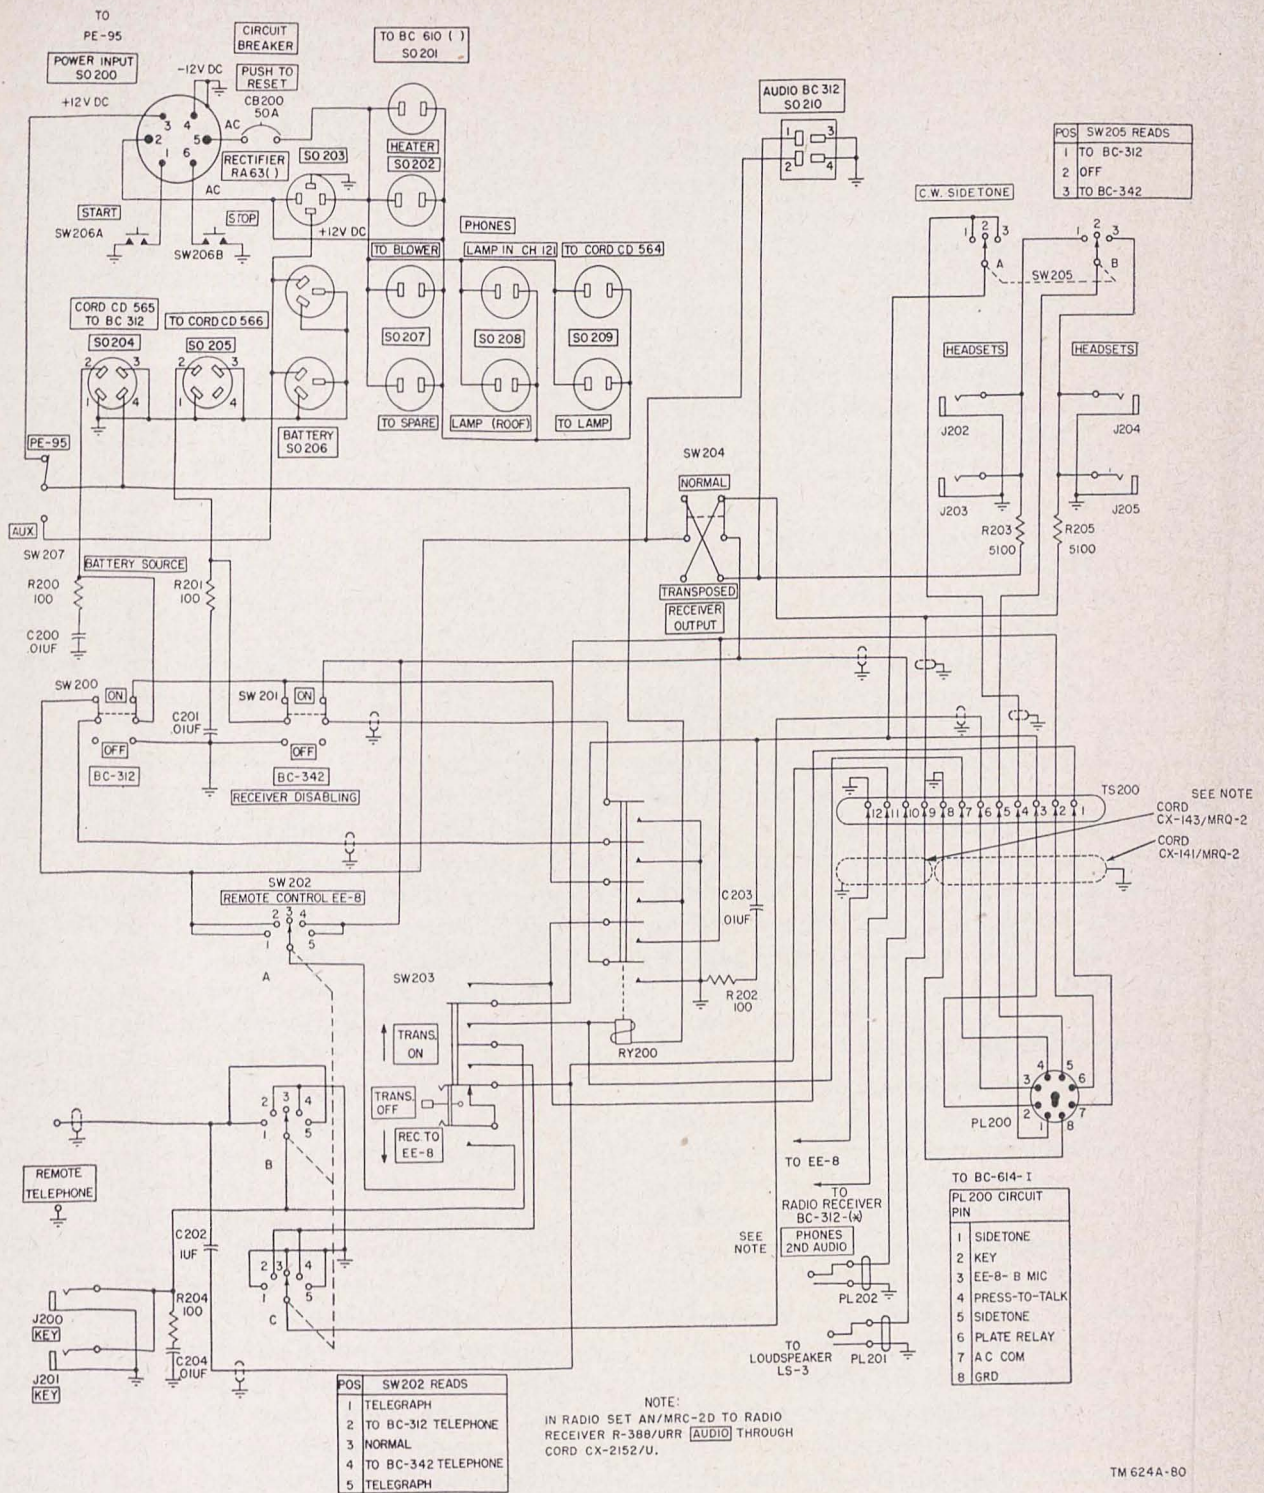

Figure 65. Junction Box JB-70-(\*), schematic diagram.
STOP switch, and one conductor is connected to ground through the START switch on Junction Box JB-70-(\*) (fig. 65).
b. One set of contacts is in parallel with a pair of contacts on the transmitter switch (fig. 65). Ac power from the transmitter comes to terminal 2 of TS200 via Cord CD-764, terminal 4 of socket SO 103, terminal 6 of socket SO 102 and Cord CX-141/MRQ-2. From terminal 2 of TS200, contact is made to the relay point and also to transmitter switch SW203 (not shown in figure 68; see figure 65). From the other contact of the relay, and also from the switch, contact is made to terminal 1 of TS200. The circuit is completed to plate power and antenna shorting relays RY1 and RY4 in the transmitter through Cord CX-141/MRQ-2, terminal 7 of SO 102, terminal 3 of socket SO 103, Cord CD-764, and terminal 3 of socket SO 5. The contacts of the transmitter switch operate the transmitter relays during cw operation; the contacts of relay RY200 complete